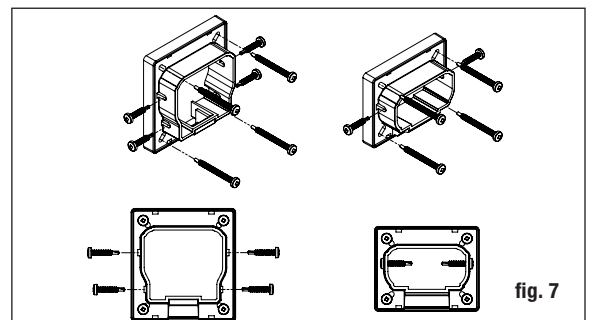

fig. 7
Step 9 Place the line rail bracket covers and line brackets on the ends of the bottom rail and prop the bottom rail between the posts using blocks cut to size. Check the rail for level. Using the line bracket as a guide, mark the screw positions on the post sleeve and rail on both ends. Pre-drill 1/8" pilot holes through the post sleeve and rail. Attach the line bracket to the post sleeve using the #8-15 x 2" - #2 square drive pan head screws and then attach line bracket to rail using #10 x 3/4" - #2 square drive pan head self-drilling screws (fig.7)
Step 11 Place the line rail bracket covers and line brackets on the ends of the top rail. Position the top rail by placing the balusters inside the routed holes, while working from one end to the other. Check the rail for level. Using the line bracket as a guide, mark the screw positions on the post sleeve and rail on both ends. Pre-drill 1/8" pilot holes through the post sleeve and rail. Attach the line bracket to the post sleeve using the #8 x 2" - #2 square drive pan head screws and then attach line bracket to rail using #10 x 3/4" - #2 square drive pan head self-drilling screws (fig. 7).